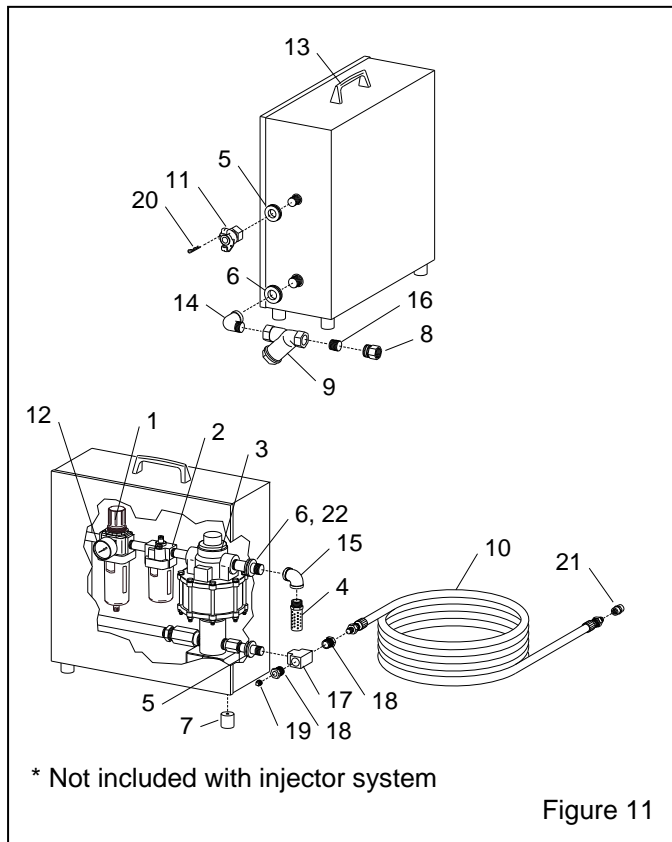

Figure 11
8.2 Pump Module and Water Tank, Figure 11